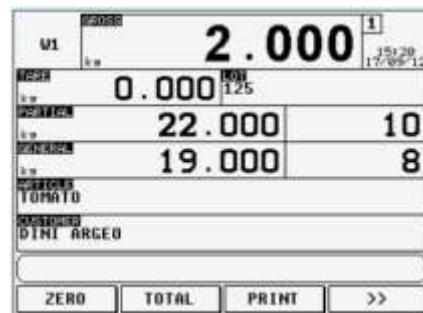

Figure 7. Totalisation success (loading mode)
5. On success the totals are incremented (Figure 7) and the printout, if configured, is executed